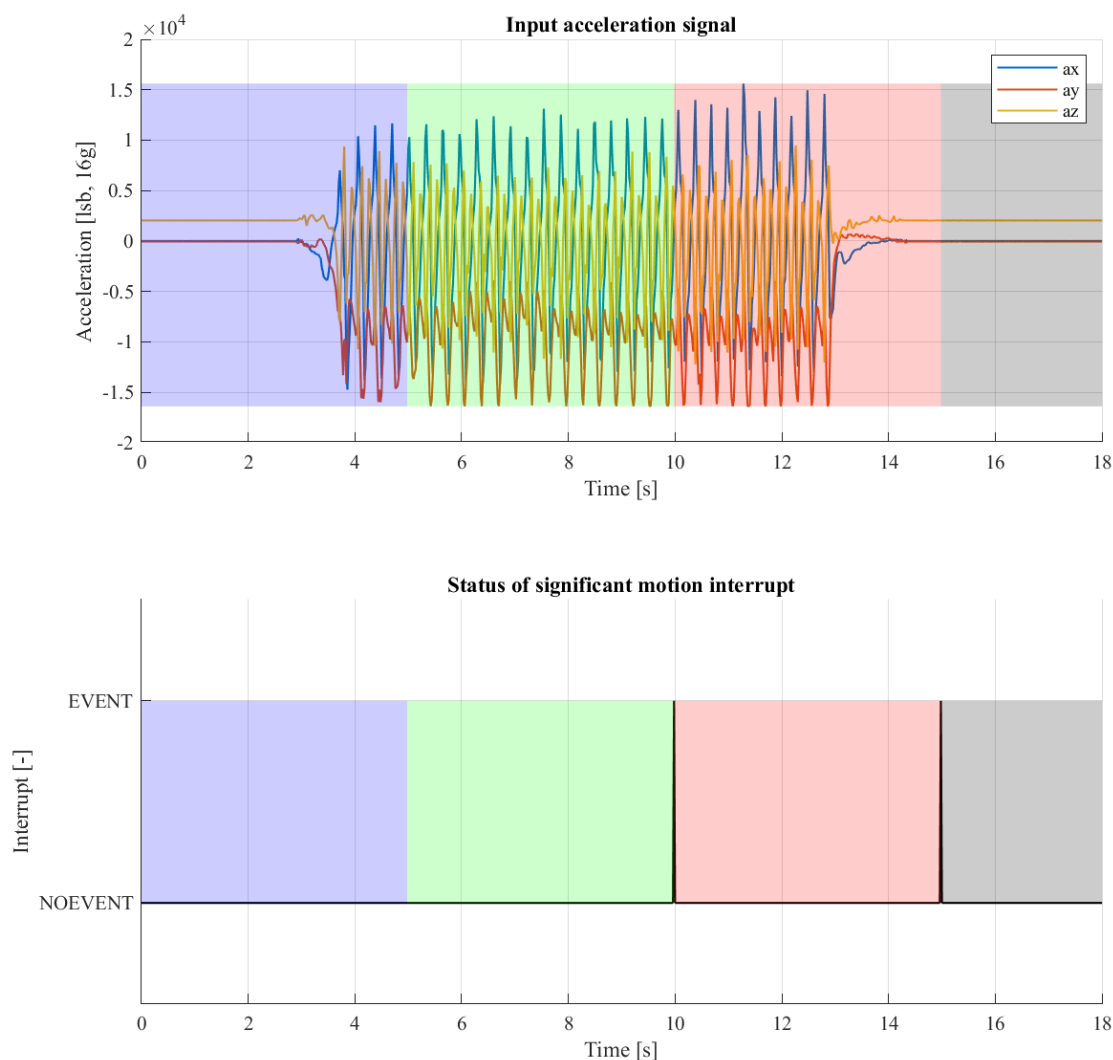

Figure 12: Significant motion interrupt detection behavior for walking use-case
**Example** An example for the behavior of the significant motion detection for a walking scenario is depicted in Fig. 12, where `EXT.SIGMO_1.block_size` is set to 5 seconds (0x00FA).